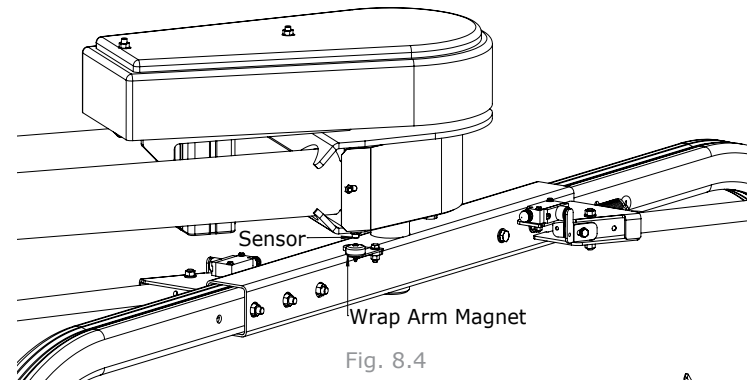

Fig. 8.4
- Ensure the Wrapping Arm is in the park position; ie the Wrap Arm Magnet is positioned under the Sensor, (See Fig. 8.4)